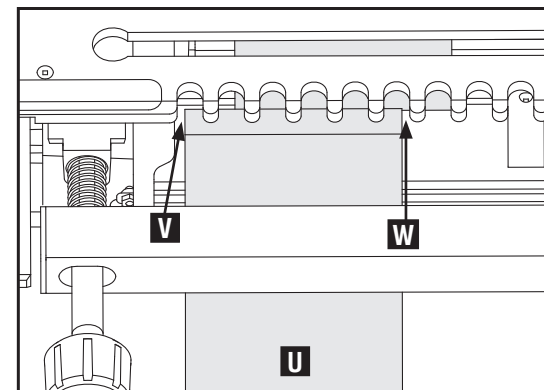

Fig. F10
8. Slide tailboard (drawer side) (U) Fig. F10 up into the vertical position with the "outside surface" facing the jig and flush with the template above. Center and clamp the tailboard as far to the left as possible, as shown in Fig. F10. Be sure the gap at (V) is equal to the gap at (W).